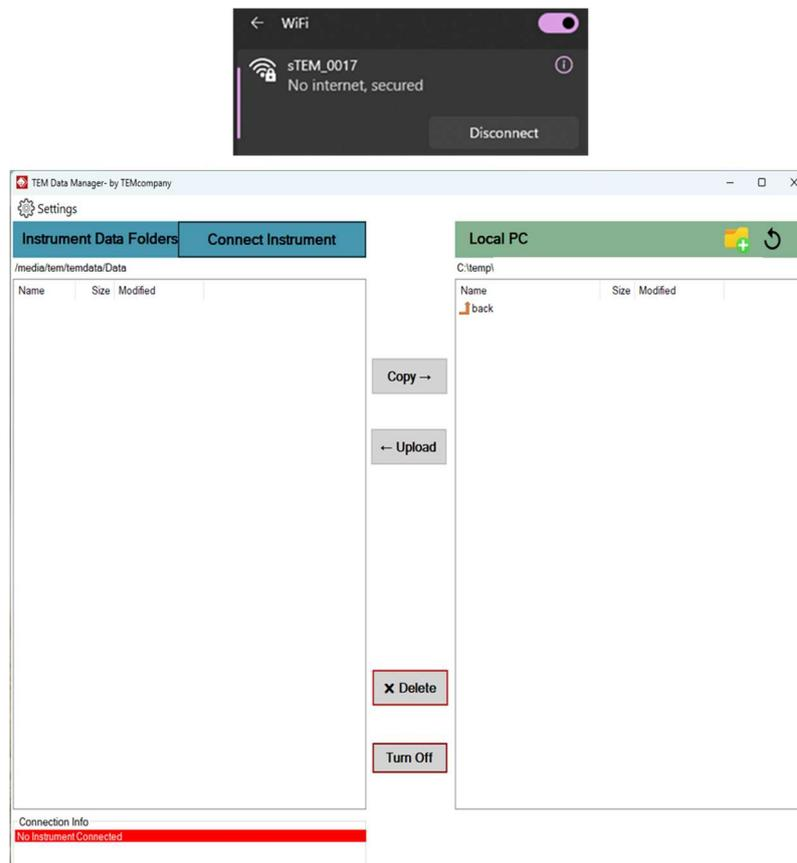

Figure 20. Top) Example of sTEM unit's Wifi network name. Bottom) Main window of TEM data Manager program (when not connected to the instrument).
- From the *Local PC* connect to sTEM Wi-Fi network. (see Figure 20, top)
Next step is to use TEM Data Manager to download the data. The main program window is shown in Figure 20, bottom.